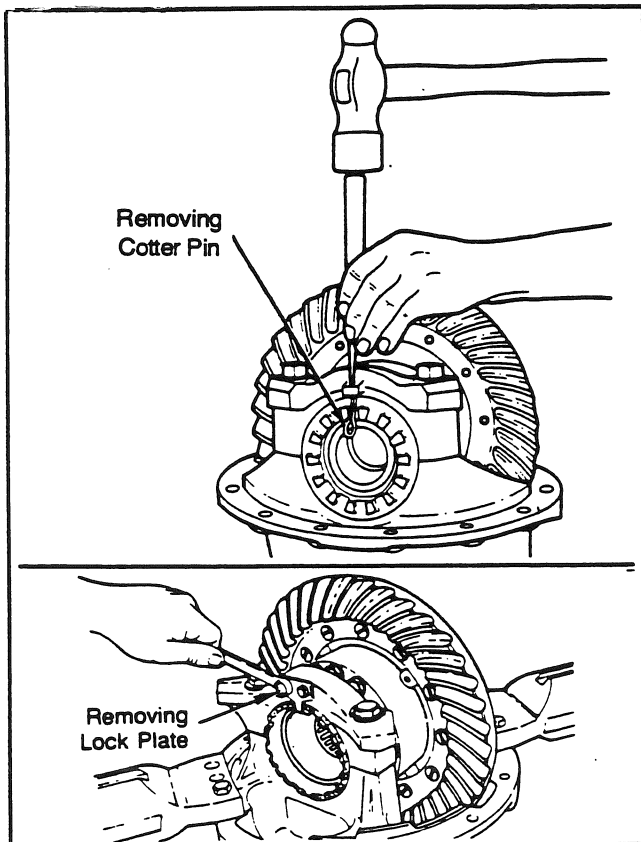

Fig. 11
4. Remove the cotter pin and lock plate retaining the two adjusting rings. Use a hammer and small drift to remove the cotter pin. Two bolts and lockwashers retain the lock plate (see Fig. 11).